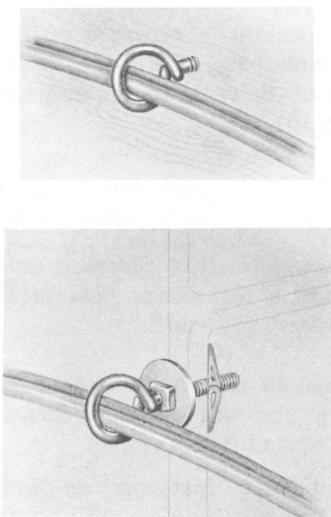

Fig. 13 – Bridle Ring and Toggle Bridle Ring
3.11 Bridle ring and toggle bridle ring (Fig. 13)
2-1/4 (Fig. 13)